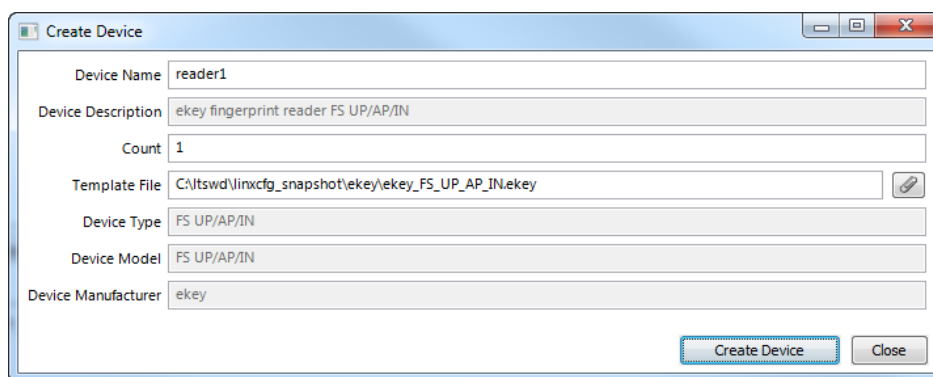

Figure 166: ekey fingerprint reader device creation dialog
3. In the **Create Device** dialog enter a **Device Name** and a **Count** of devices to be created as shown in Figure 166.